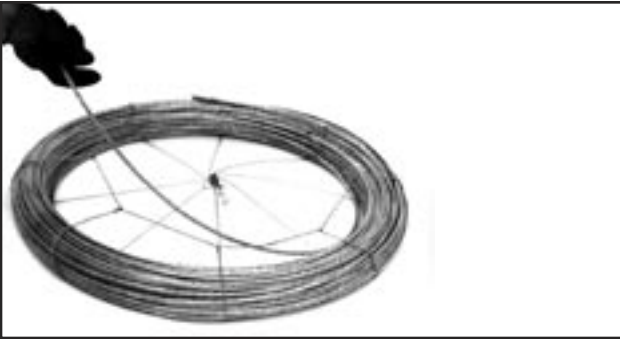

Figure 6 - Turn dispenser over and pull out the required length of strand
1.05 Turn the dispenser over so that the twisted "knot" is down. To pay out the coil, pull out the required length of strand. There is no need to hold the dispenser as the weight of the coil will hold it down. (Figure 6)